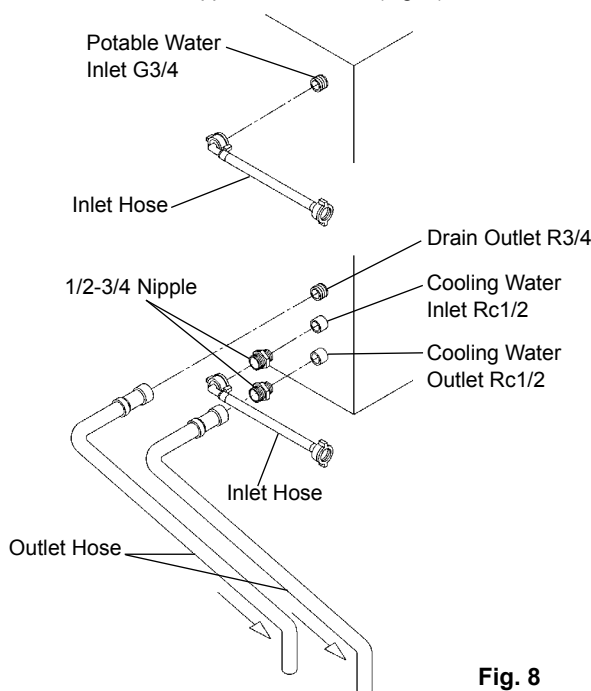

Fig. 8
[b] Connections according to regulations other than WRC by utilising accessory hoses (Fig. 8)
2) For Condenser connections, use supplied accessory hoses and make the same connections as 1) to 3) in [a] above to the free ends of 1/2-3/4 nipples as indicated (Fig. 8).